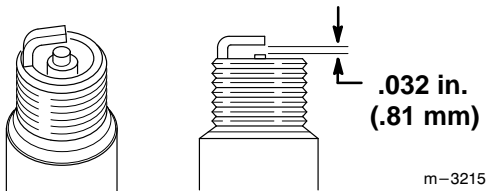

Figure 24
5. Set the spark plug gap (Fig. 24) between the electrodes to .032 in. (.81 mm).